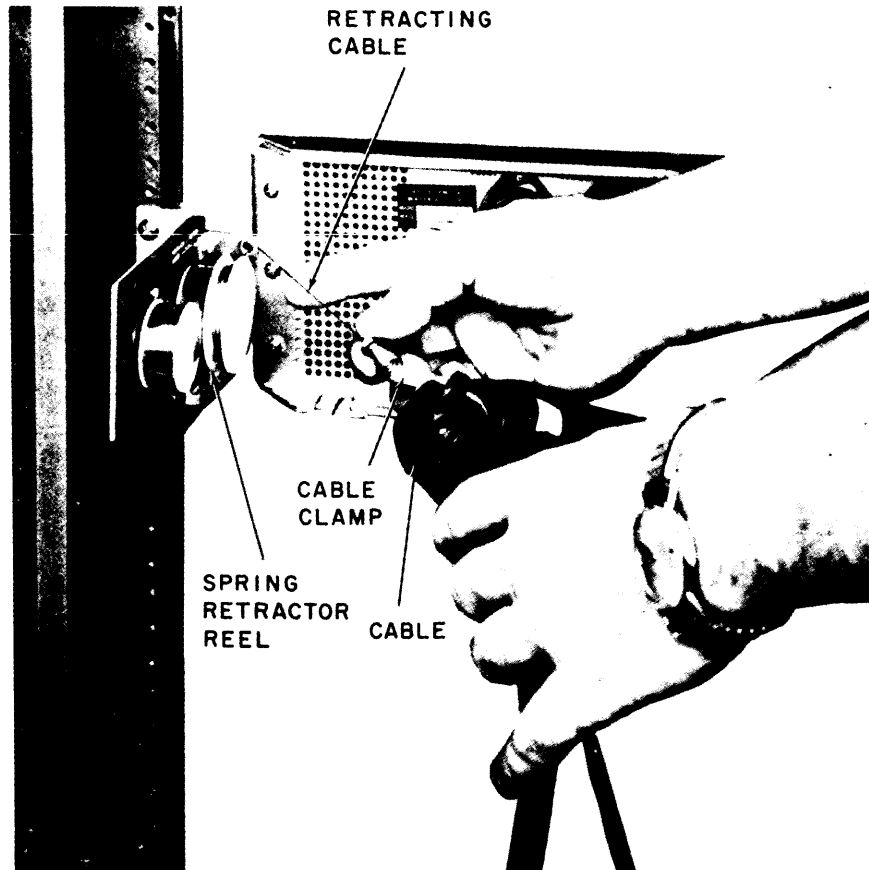

Figure 2-7. Cable Retractor Connection
- a. Untape or unstrap cable assemblies, cable retractors, and all other components secured to the inside of frame for shipment (see figure 2-7).